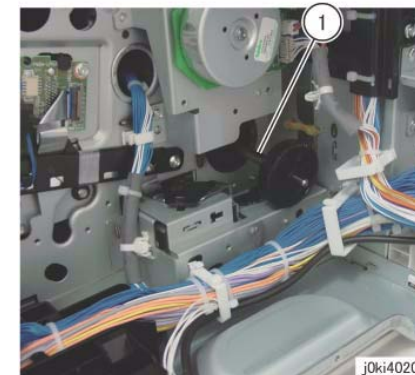

Figure 4 Remove the gear and shaft
10. Remove the gear and shaft. (Figure 4)